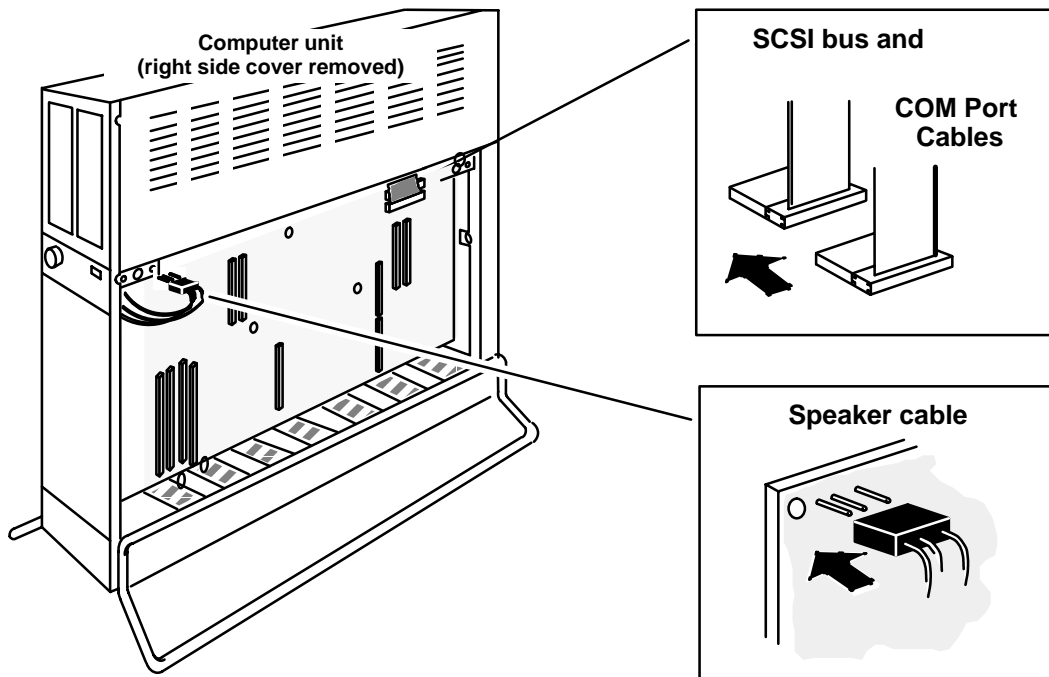

Figure 10-15 Plugging Cables into the System Board
- Plug the SCSI bus, COM port, and speaker cables into the system board as shown in Figure 10-15.